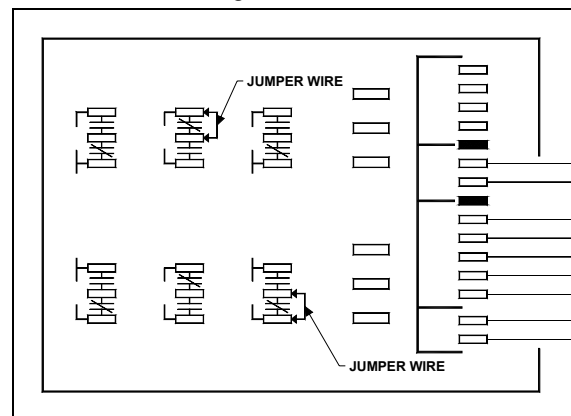

FIGURE 20: HVAC LOGIC PANEL
- Open the rear electrical compartment. Locate the **cooling contact 3** on the HVAC logic panel. Install a jumper wire between the central terminal of this stage and its normally-closer contact terminal as illustrated in Fig. 20. Locate the **cooling contact 2**. Install a jumper wire between the central terminal of this stage and its normally-closed contact terminal as illustrated in Fig. 20.